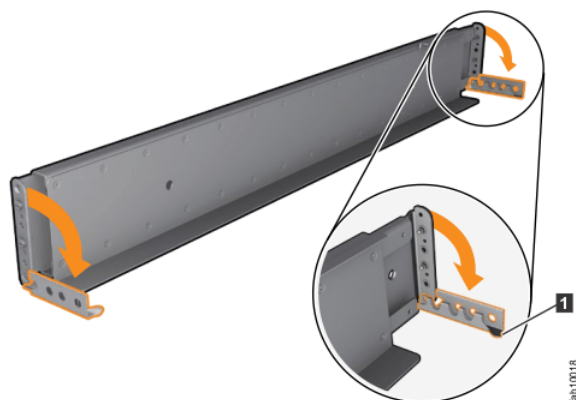

Figure 27. Opening the hinge brackets
- At each end of the rail, grasp the tab **1** and pull *firmly* to open the hinge bracket (see Figure 27 on page 66).